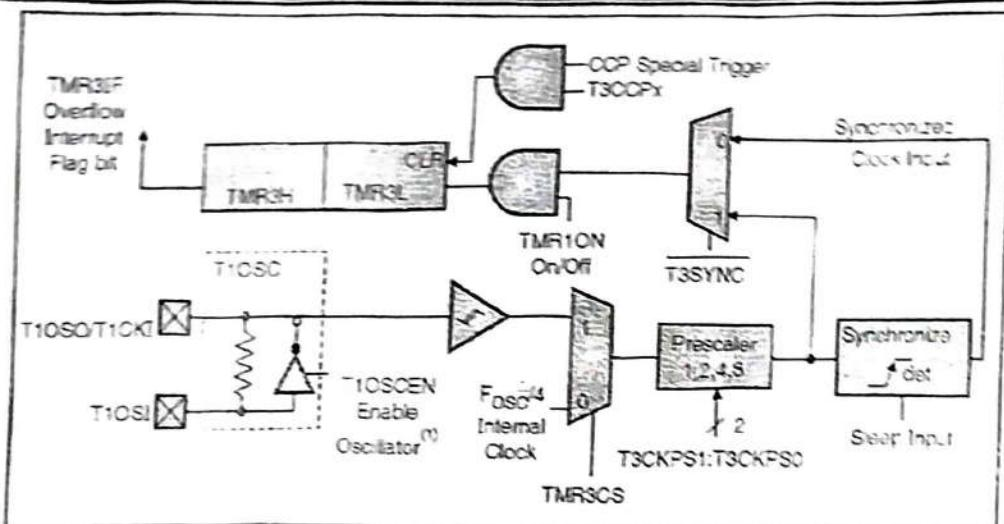

Fig. 5.6.1 : Timer 3 block diagram
- Fig. 5.6.1 is a simplified block diagram of the Timer 3 module.